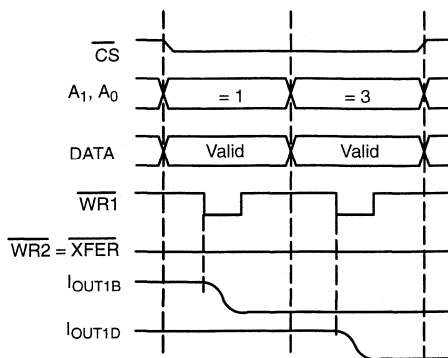

Figure 6. Individual DAC Update
- 2) Individual DAC update. The condition $\overline{\text{WR2}} = \overline{\text{XFER}} = \text{low}$ makes the DAC latches transparent. A writing to the B1/B2 latches updates the DAC outputs (Figure 6.)